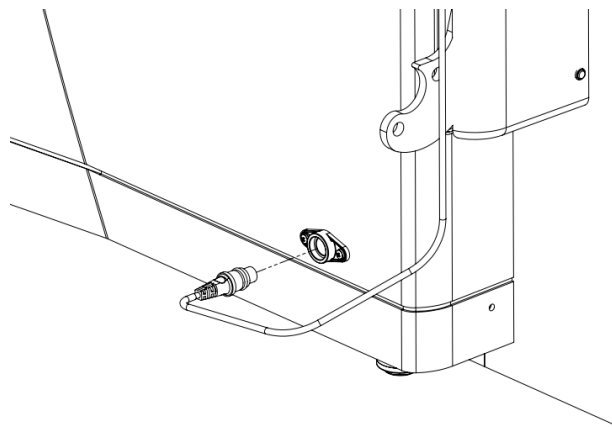

Fig 12.4e
- The handset may now be plugged in to the port at the base of the cover (Fig 12.4e) and stowed on this hook.